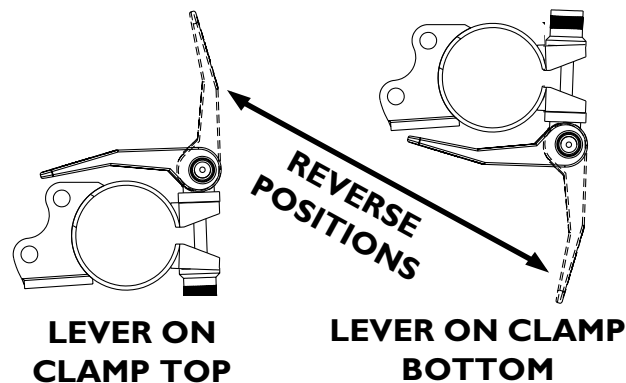

FIGURE 6 - REPOSITIONING QUICK RELEASE LEVERS
REPOSITIONING QUICK RELEASE LEVERS (FIGURE 6)
3. If necessary, position the recessed washer and coved washer onto the quick release lever, as shown in FIGURE 6.
4. Insert the quick release lever with washers through the camber clamp as shown in FIGURE 6.